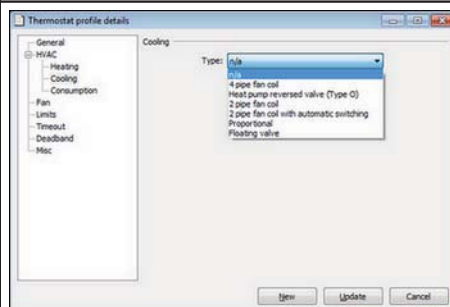

Figure 54
2. At **Cooling**, make the applicable choice in the drop-down-menu; the available alternatives are shown in Figure 54. For *2-pipe fan coil with automatic switching*, further settings can be made; click here for details.